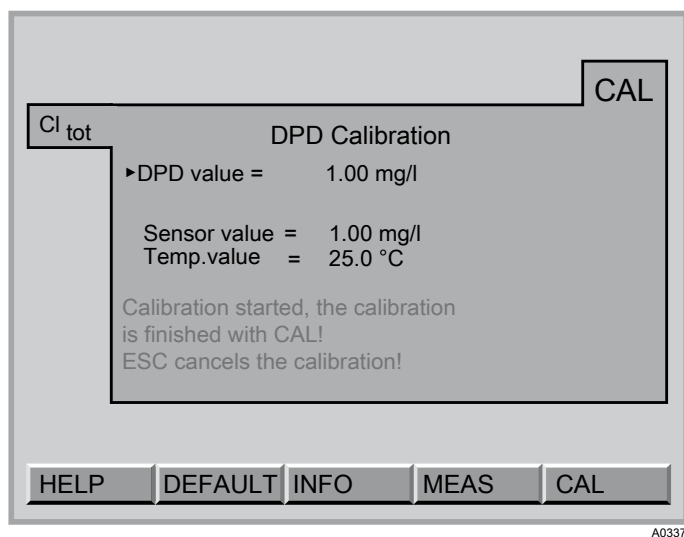

Fig. 34: [DEFAULT].
2. ➤ Press the F2 key (DEFAULT) key, see Fig. 34